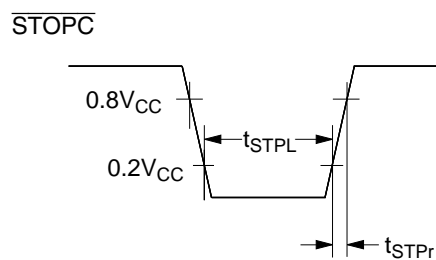

Figure 80 \overline{STOPC} Timing
- Refer to figure 80.
5. Refer to figure 80.